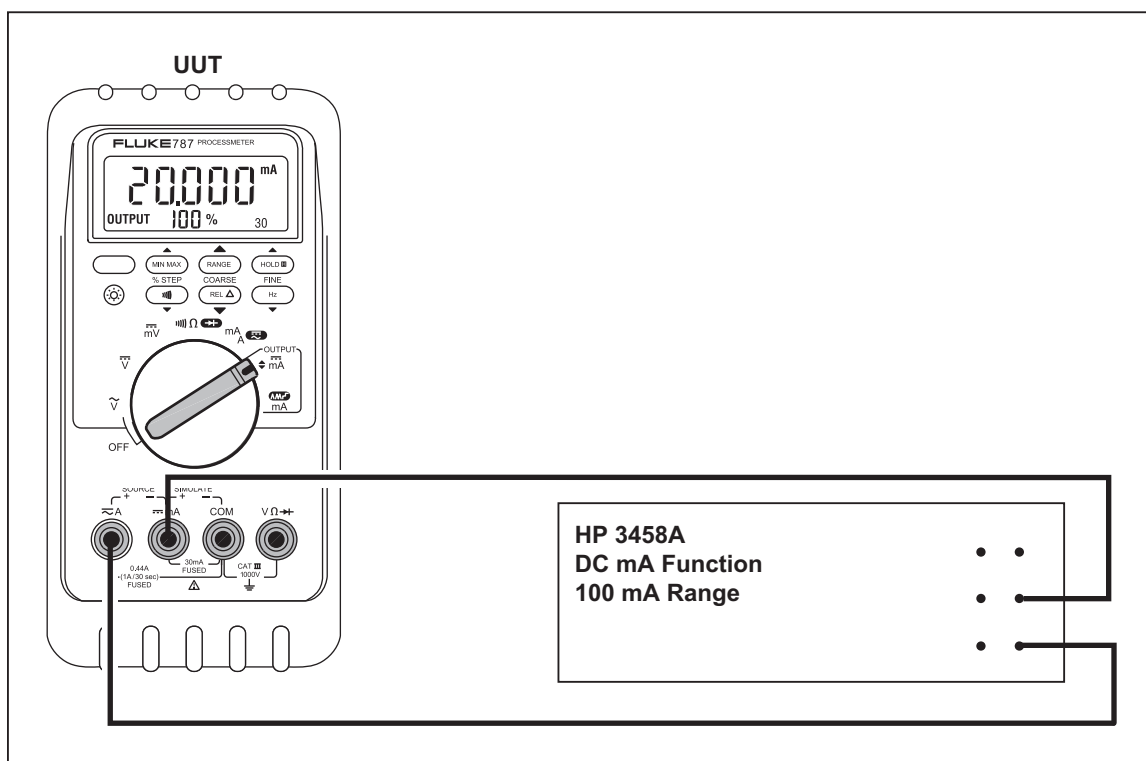

Figure 4. Current Sourcing Connections Using the HP 3458A
2. Connect the **SOURCE + (mA)** and **-(mA)** terminals on the UUT to the current terminals on the multimeter as shown in Figure 4.